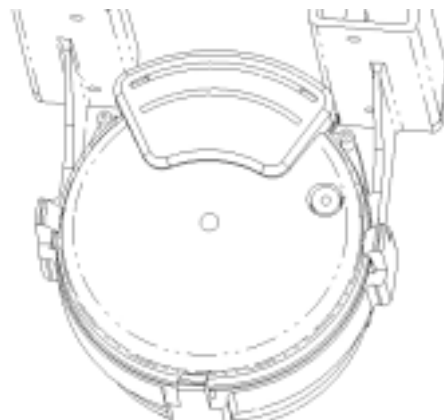

Figure 2 Securing the Register in the Adapter
- 2 Push the register all the way through so that the 3 clips on the adapter snap over the clear register lens as shown in Figure 2.